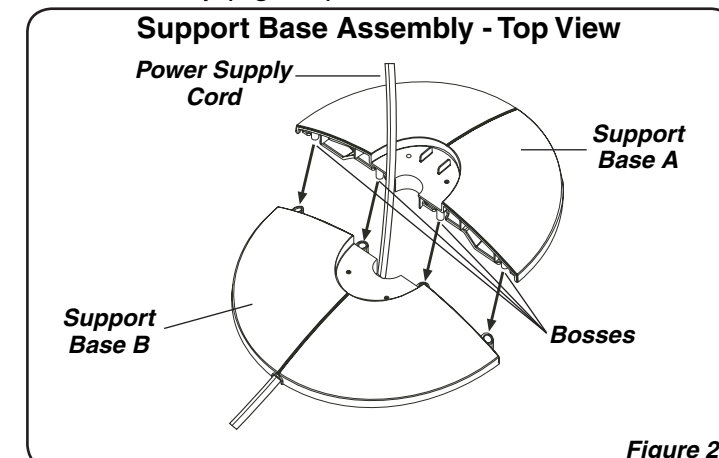

Figure 2
- Assemble the Bases by interlocking the **Bosses** on **Support Base A** into the **Boss Holes** on **Support Base B**. Thread the **Power Supply Cord** through the large hole in the center of the Support Base Assembly. (Figure 2)